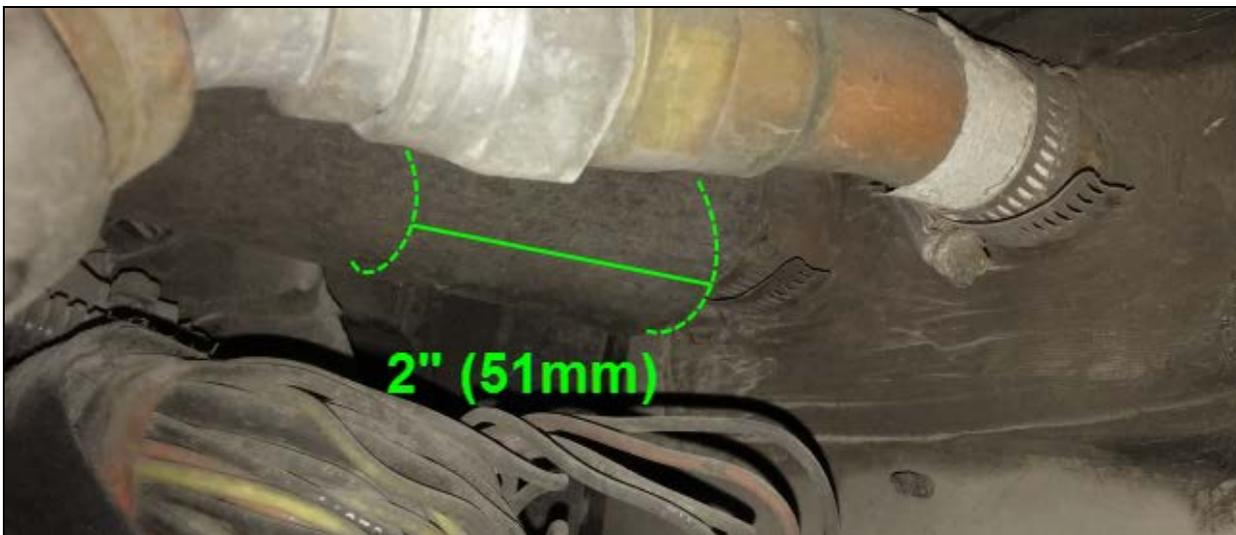

Figure 2
4. In the engine compartment, remove about two inches (51mm) of the largest AC pipe insulating material (if so equipped) (Figure 2).